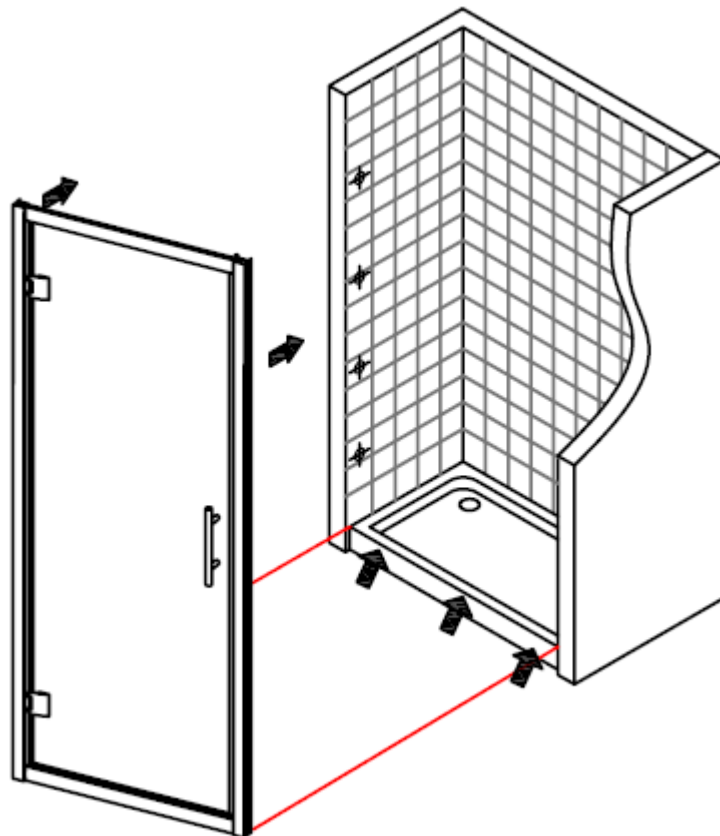

Figure 5
5. Move the whole door profile to the wall frame,as showed in figure 5.